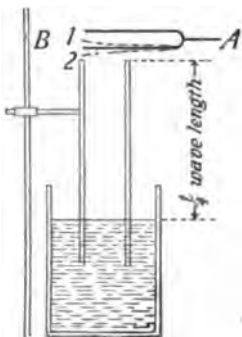

FIG. 328.—Explanation of resonance.
**339. Sympathetic vibration** is explained as follows: Sound waves produce very slight motions in objects affected by them; if the vibration of a given body is exactly in time with the vibrations of a given sound each impulse of the sound wave will strike the body so as to increase the vibratory motion of the latter. This action continuing, the body soon acquires a motion sufficient to produce audible waves. A good illustration of sympathetic vibration is furnished by the bell ringer, who times his pulls upon the bell rope with the vibration rate of the swing of the bell. In the case of the resonant air column over which is held a vibrating tuning fork (see Fig. 328), when the prong of the fork starts downward from 1 to 2, a condensation wave moves down to the water surface and back just in time to join the condensation wave *above* the fork as the prong begins to move from 2 to 1; also
readily be secured by using a tuning fork and a resonating air column. If the tuning fork is set vibrating and placed over the open end of the resonating air column (see Fig. 328), an increase in the sound through resonance may be heard. If the fork is rotated about its axis, in some positions no sound is heard while in other positions the sound